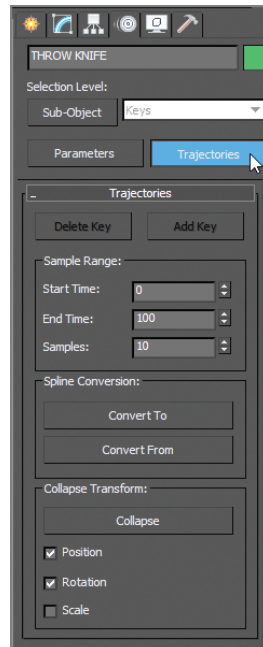

FIGURE 6.6 Turning on Trajectories for the knife
3. Click Trajectories, shown in Figure 6.6.